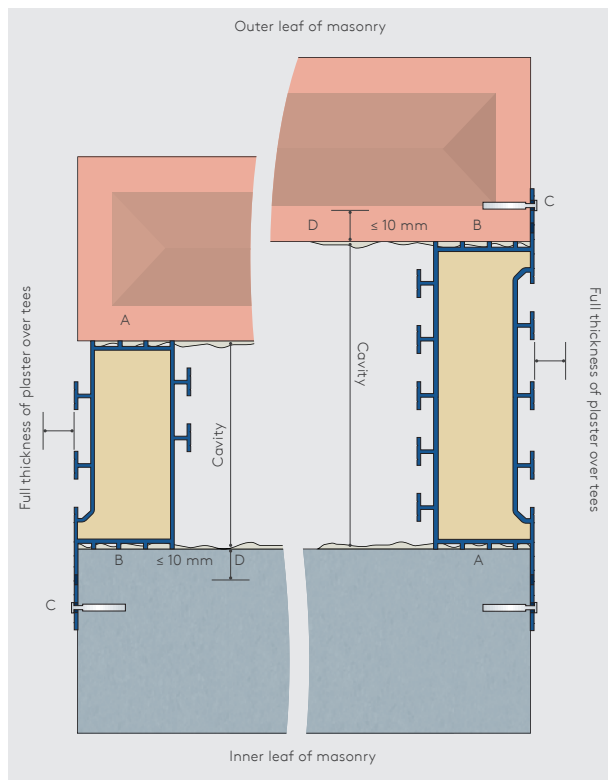

Figure 20: Basic Installation Principles
- Flange/s should always be positioned tight against the masonry and securely fixed to the masonry with a suitable fixing through the holes in the flange/s (Figure 20 C).
- In the circumstance where the section or frame, exclusive of the flange/s, does not fully fill the cavity, the appropriately sized section or frame should span the cavity such that the residual gap, which should be no greater than 10 mm, is situated behind the flange (Figure 20 D).